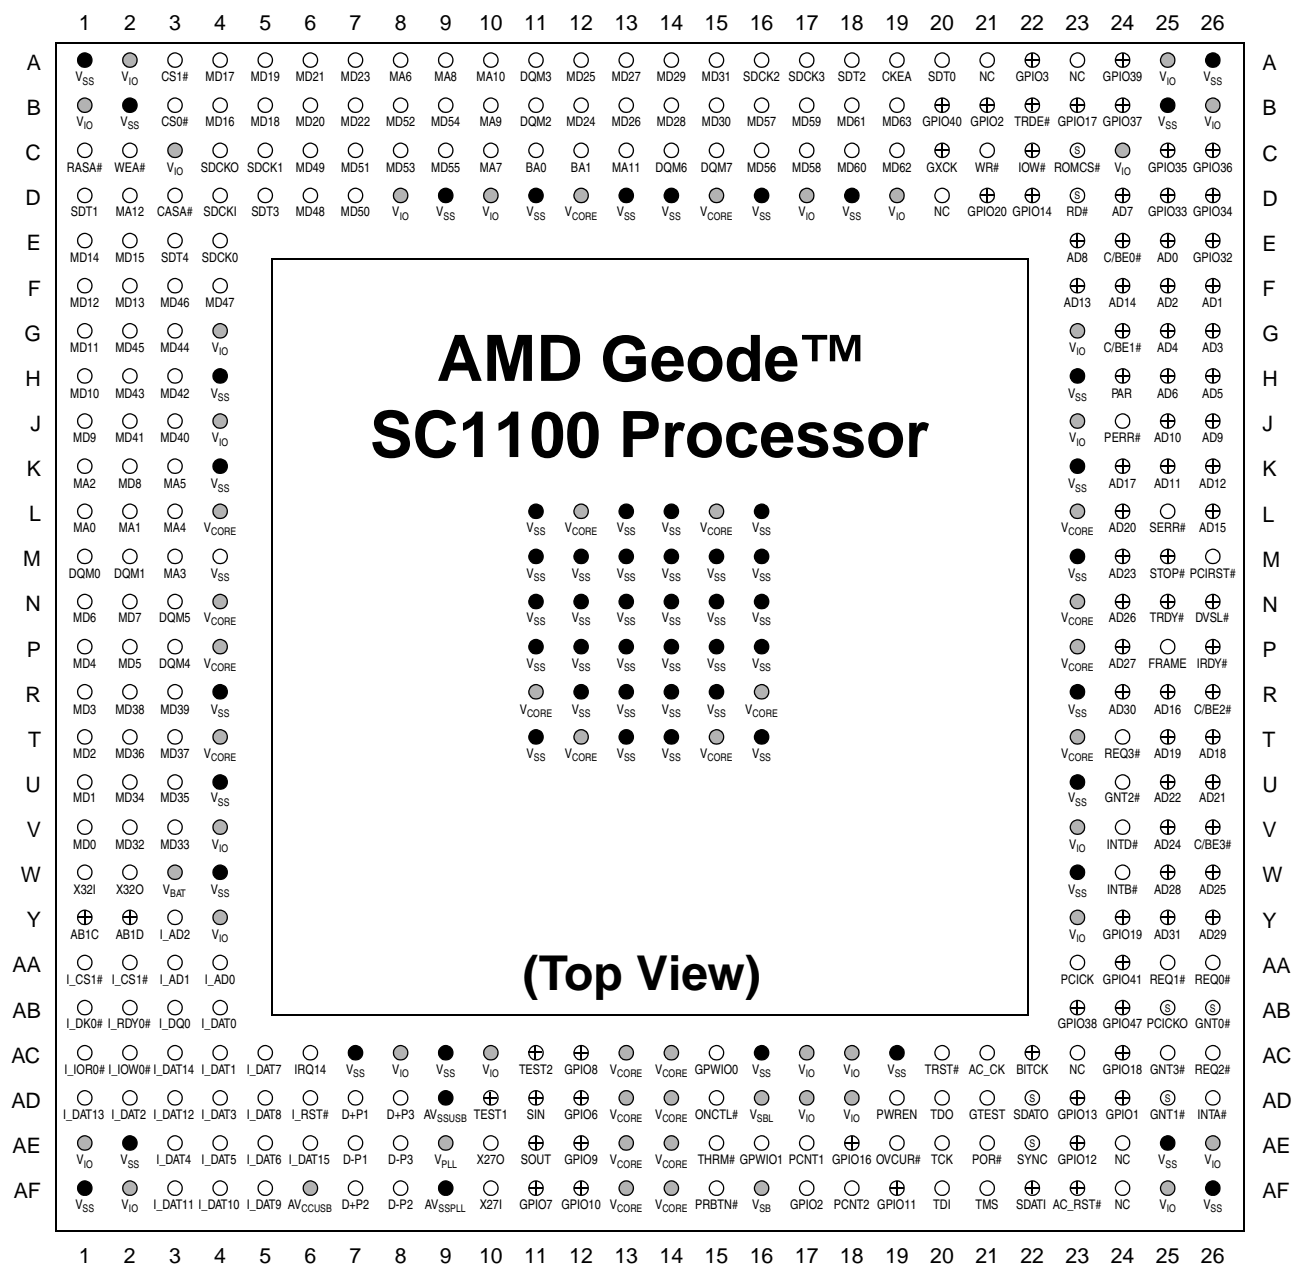

Figure 3-2. 388-Terminal Ball Assignment Diagram (Top View)
- Figure 3-2 "388-Terminal Ball Assignment Diagram (Top View)" on page 28: Illustration of ball assignment.